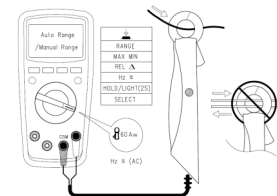

Figure 11
- \*. 60A AC and DC current clamp measurement (See Figure 11). Connect as shown in the figure with the attached current clamp.